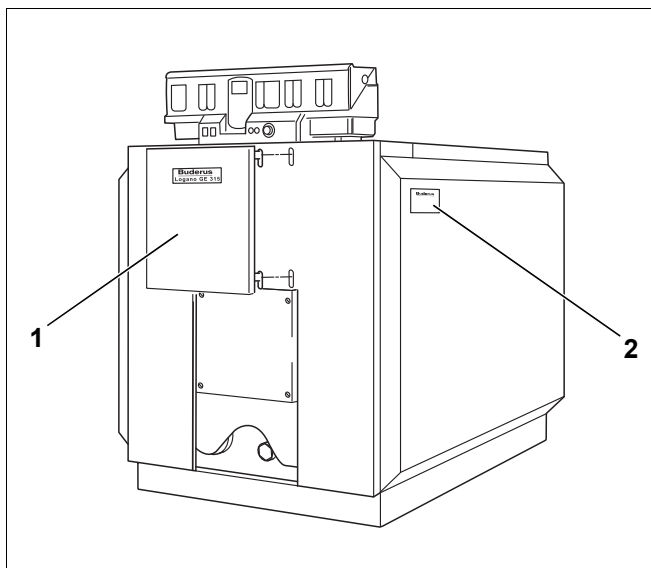

Fig. 42 Hooking on the burner door cover
- Hook the burner door cover into the front wall recesses (Fig. 42, [1]).
- Place the data plate (Fig. 42, [2]) according to boiler location on the r.h. or l.h. side wall.